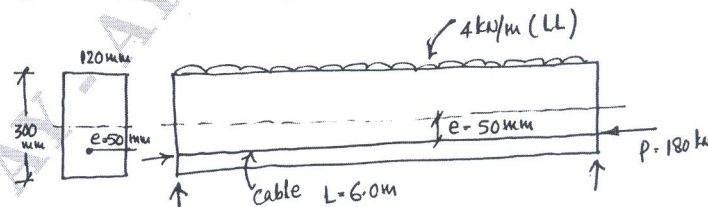

Fig.Q4(b)
- b. A PSC beam of Rectangular section is shown in Fig.Q4(b). The cable is straight with eccentricity 50mm.  $E_c = 36 \text{ kN/mm}^2$ . LL on beam is 4 kN/m. Find the deflection due to prestress, self weight and LL; Take creep coefficient 1.8. Find also long term deflection.